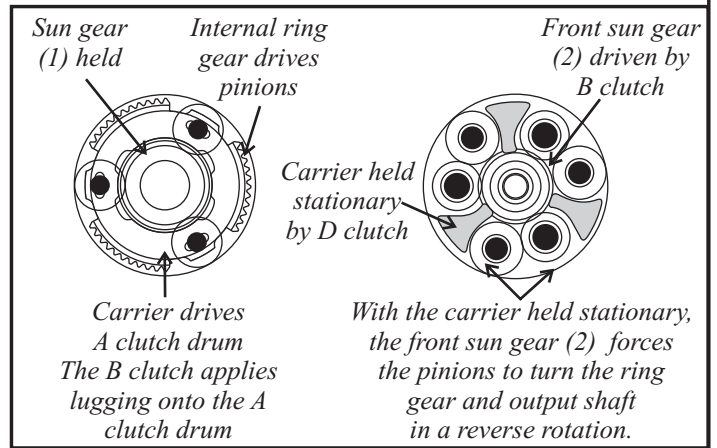

Figure 14
**Powerflow in reverse:** The B clutch is applied driving the larger front (#2) sun gear in the double planetary output carrier. The D clutch is also applied which holds the double planetary output carrier. This causes the sun gear to drive the long pinions in an opposite rotation of the turbine shaft. The long pinions then drives the internal ring gear and output shaft in a reverse reduction ratio of approximately 3.403:1 (Figure 14).